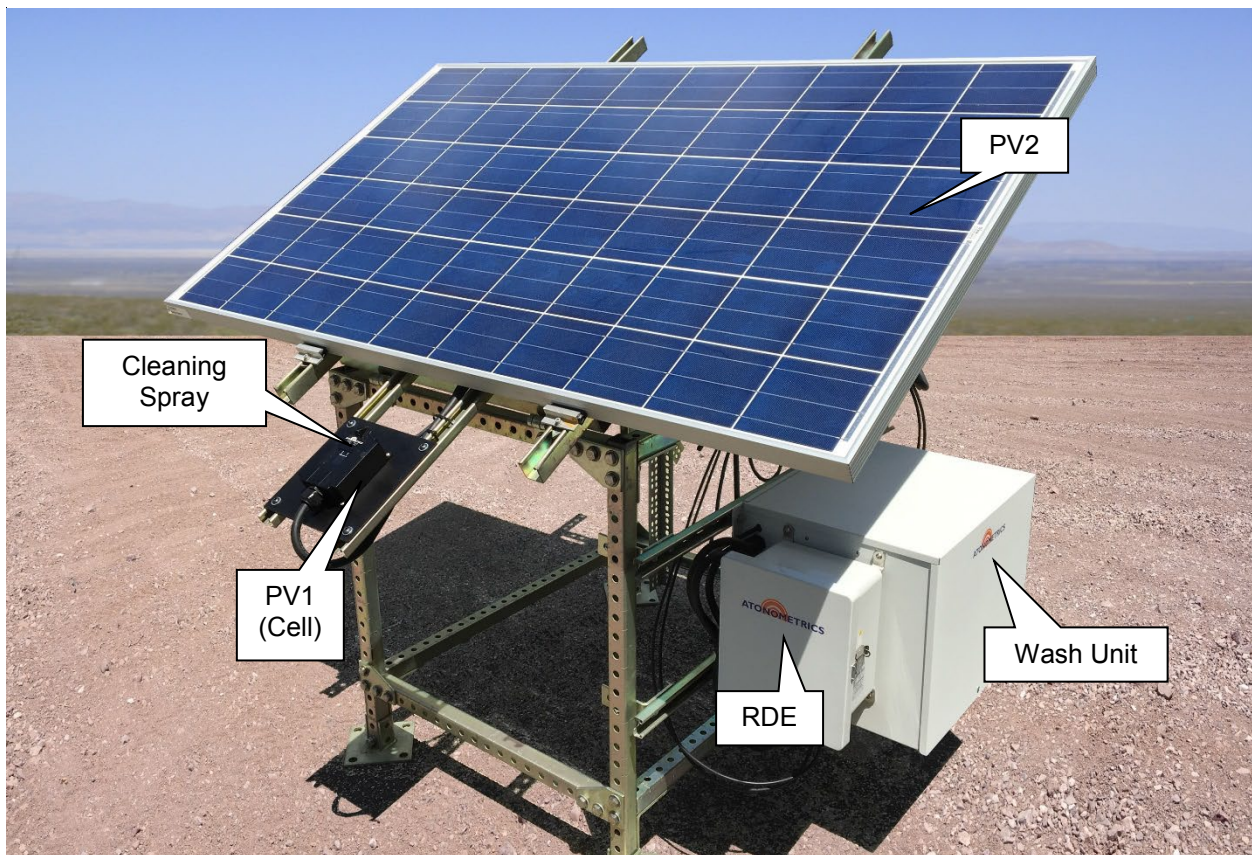

Figure 1-3: Example stand-alone installation
- If possible, mount the Reference Cell below PV2, as shown in Figure 1-3.
Figure 1-3 shows an example of a standalone system with an automatically washed reference cell as PV1 and a full-size PV module as PV2. Typical applications include pre-construction data gathering at planned solar power plant sites. The metal support structure would be user-provided.